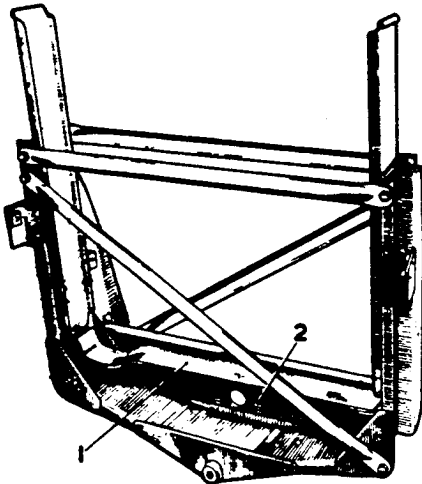
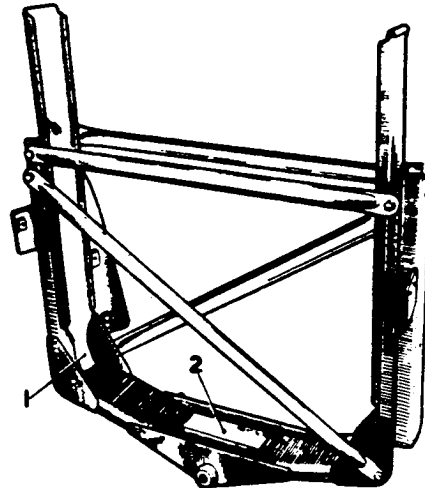

FIG. 3. YOKE UNMODIFIED.
FIG. 4. YOKE MODIFIED.
NOTE: This is necessary in view of the increased length of the new type matrix. Figs. 3 & 4 illustrate the yoke before and after modifying and are included as a means of assistance to operators when carrying out the following instructions.
1. Using a cold chisel, cut the spotwelding at each end of the matrix cradle (1, Fig. 3) and remove the cradle. Clean up the two supporting straps with a file, and then bend these downwards parallel with the sides of the yoke (as shown in 1, Fig. 4).
2. Cut away the spotwelding between the baffle plate (2, Fig. 3) and the yoke frame and remove the plate. Clean up the frame with a file.
3. Cut off a section of the original cradle to correspond with the flat at the bottom of the yoke frame and position this as shown (2, Fig. 4). Slide the new matrix into the yoke so that it rests correctly on the bottom, mark off the relative position of the cradle, and then sweat the new cradle strip to the bottom of the yoke. Replace the new matrix in the yoke and lock in position by means of the original wedges. Refit the two diagonal stiffeners.